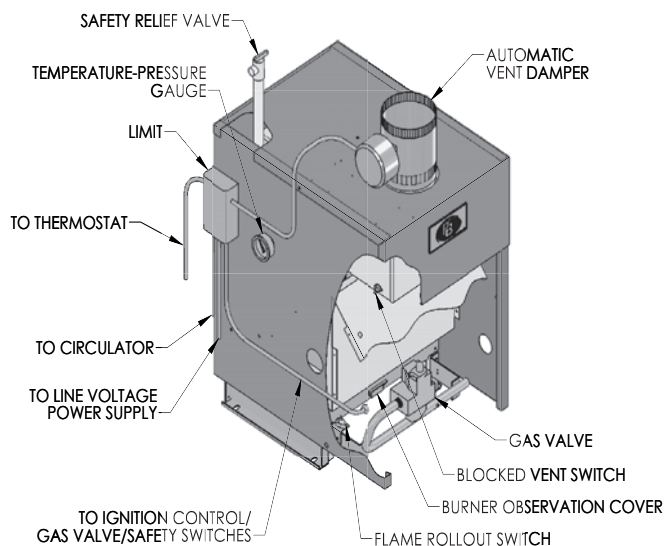

Figure 6.1: Wiring, Controls and Safety Devices
1. See Figure 6.1 for location of wiring and controls. Use Figures 6.2 and 6.3 to connect the boiler to a power supply and to connect components to the boiler.
3. Connect the vent damper harness to the damper motor as shown in Figure 6.1.
1. For proper location of controls and accessories refer to Figure 6.1 and Section 11.